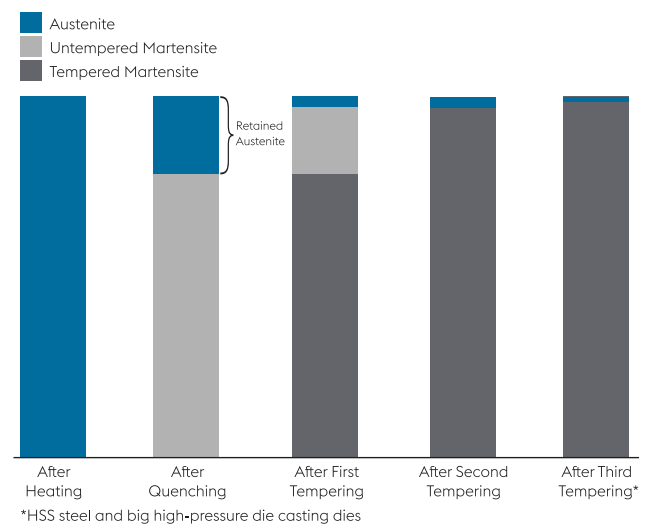

Figure 2 – Illustrative metallurgical transformations during heat treatment.
- » The tool is very unstable after quenching. Significant thermal stresses and patches of austenite will remain after quenching/cooling, leaving the tool vulnerable to cracking. As **Figure 2** illustrates, at least two tempering cycles are necessary to complete the transformation of most of the austenite to martensite and relieve stresses in the newly formed martensite. A third tempering is recommended for some special applications, such as high-speed cutting tools, die-casting inserts, forging dies, and any other application in which complex or large tools are used and dimensional stability is a must.